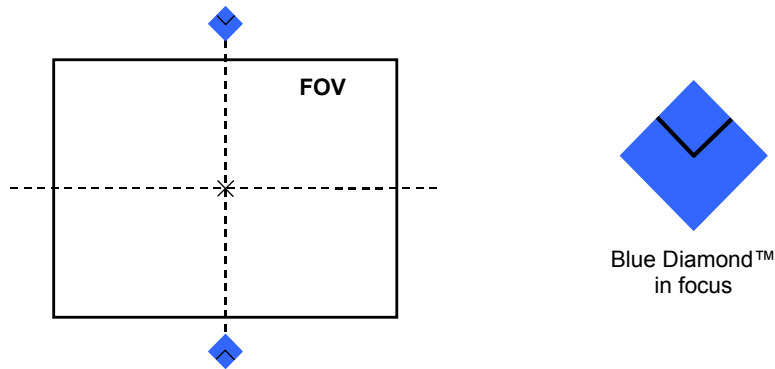

Figure 8 – Focus Function Using Blue Diamonds™
- A) Adjust the Focus ring towards the "Near position" until the Blue Diamonds™ are perfectly in focus, see Figure 8.